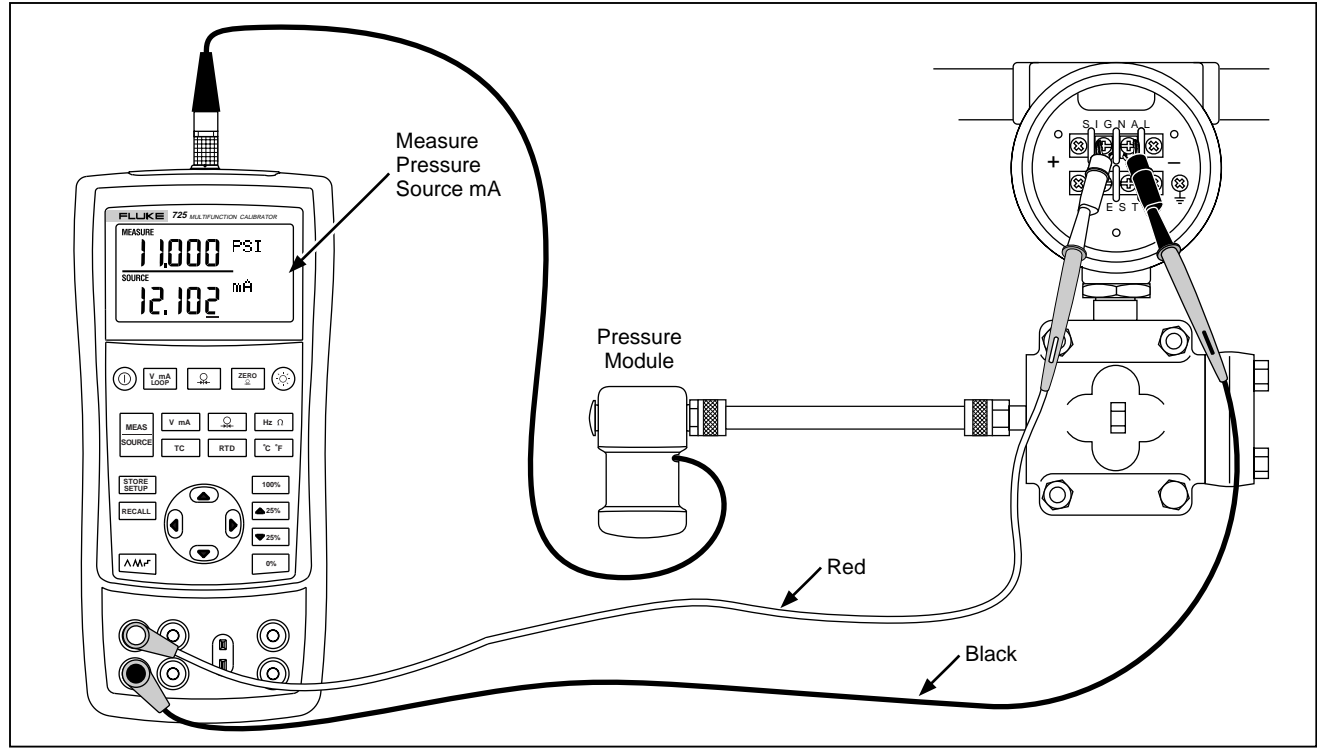

Figure 21. Calibrating a Current-to-Pressure (I/P) Transmitter
1. Connect the test leads to the instrument under test as shown in Figure 21. The connections simulate a current-to-pressure transmitter and measures the corresponding output pressure.